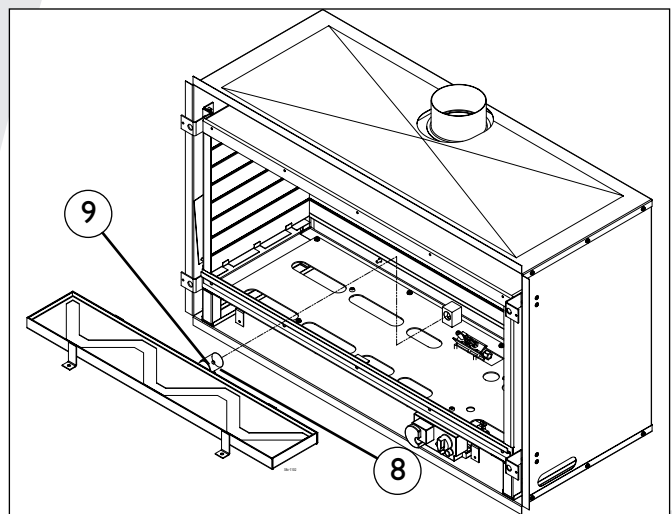

fig. 6
- Unscrew the adjusting screw (8) in the airflow regulator (9), (figs. 6 and 7).